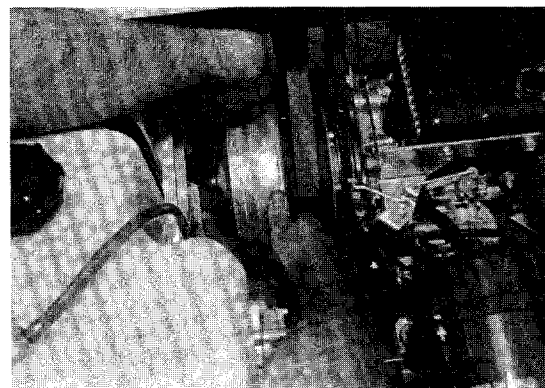

Figure 9-3
5. Remove drive clutch retaining bolt and washers (**Figure 9-3**).